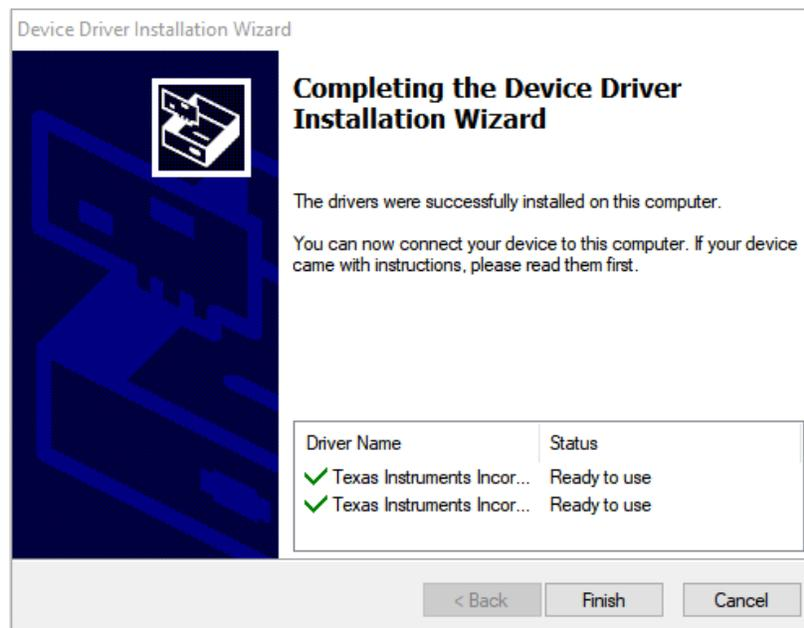

Figure 20. Setup Screen 8
14. Figure 20 shows the screen showing the completion of the XDS driver. The UniFlash installation starts at this point. Click **Next >** to start the installation.